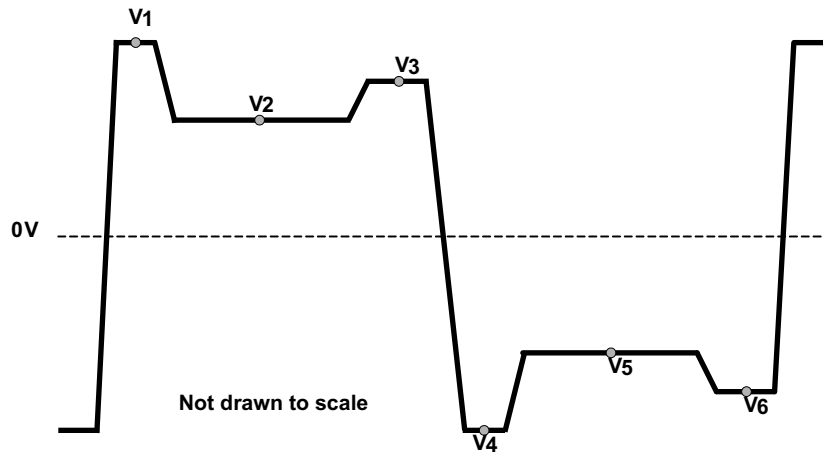
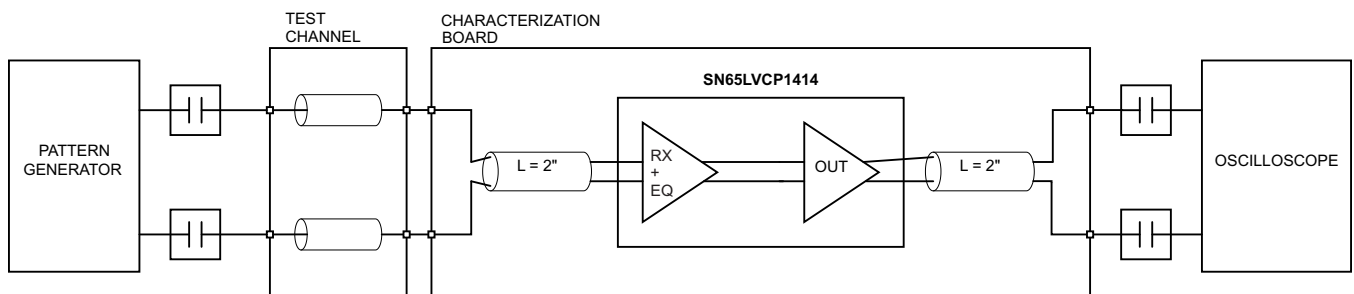
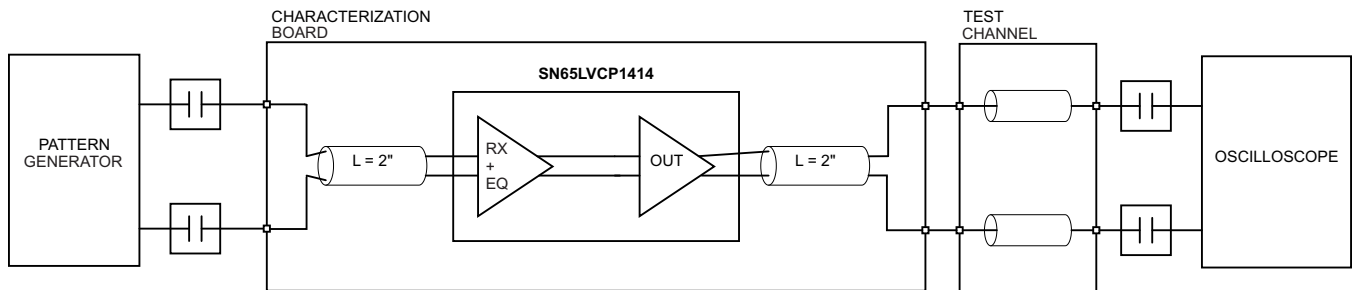

Figure 9. Vpre and Vpost (test pattern is 11111110000000 (8-1s, 8-0s))
Figure 10. Receive Side Performance Test Circuit
Figure 11. Transmit Side Performance Test Circuit
(2) Rise and Fall measurements include board and channel effects of the test environment, refer to Figure 10 and Figure 11.
(3) t_{SK(O)} is the magnitude of the time difference between the channels.
(4) t_{SK(PP)} is the magnitude of the difference in propagation delay times between any specified terminals of two devices when both devices operate with the same supply voltages, at the same temperature, and have identical packages and test circuits.
(5) All noise sources added.
Regarding timing, the SN65LVCP1414 is I²C compatible. The typical timing is shown in Figure 9 and a complete data transfer is shown in Figure 10. Parameters for Figure 9 are defined in Table 3.